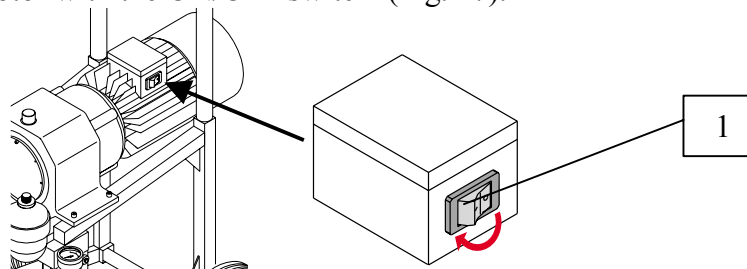

Fig.17
- 6) Start the pump motor with the ON/OFF switch (Fig. 17).